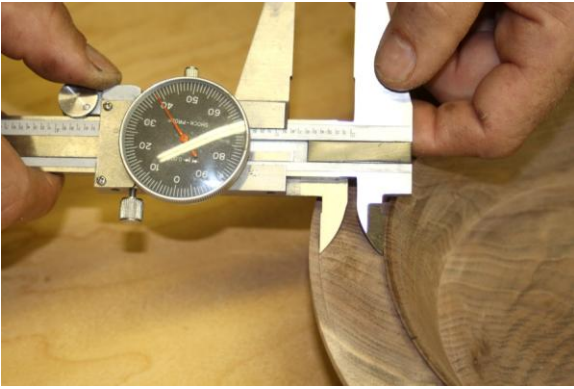

Fig. 3
- A. Using the calipers, measure the width of your project's inlay groove (Fig. 3). Record this number.